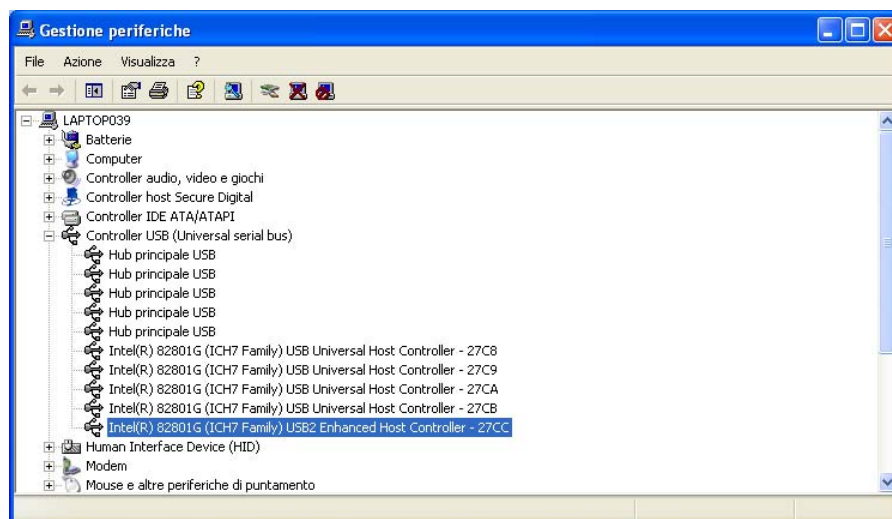

Figure 2: Device Manager controller USB.
- The computer must support USB 2.0 connection. In order to execute the check, verify the presence of the wording “USB2 EHC” or “USB2 Enhanced Host Controller” in the settings of the USB controller (START>CONTROL PANEL>SYSTEM select from hardware menu DEVICE MANAGER>CONTROLLER USB per WINDOWS® XP; START>CONTROL PANEL>SYSTEM>DEVICE MANAGER per WINDOWS® VISTA and WINDOWS® 7) like figure 2.